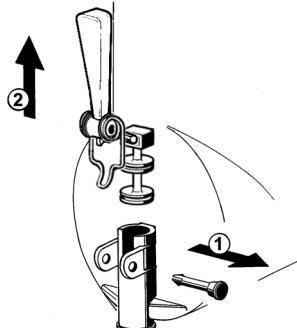

figure 10
- 5** Dismantle the faucet assembly (see figure 10).
- 3** Assemble the faucet by reversing the disassembly steps (see figure 10)